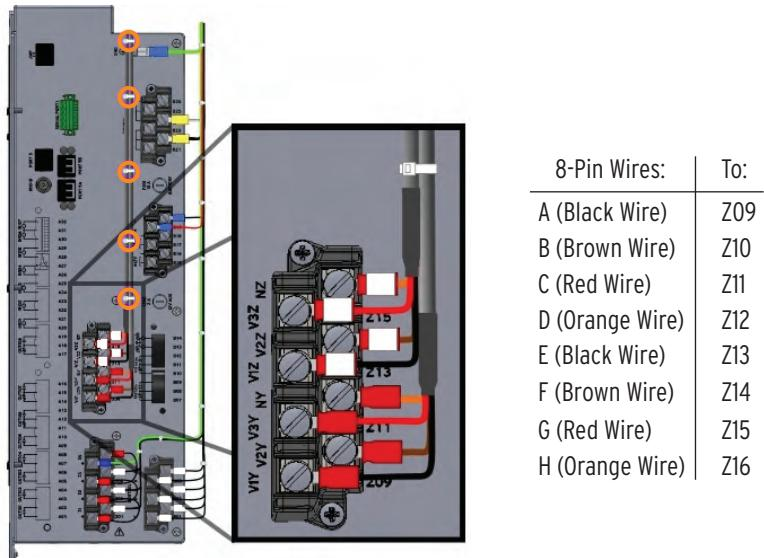

**Figure 3 Secure Wires on Top of Control Module**
Step 4. Use the existing nuts to secure the wires to the top of the control module with the two accessory wire clamps (if they are not already installed). See *Figure 3*.